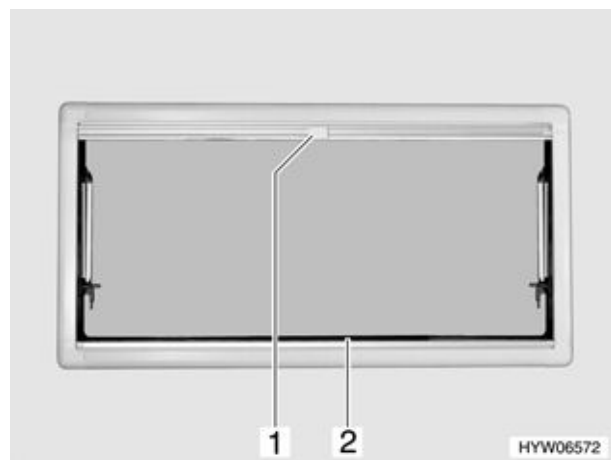

Fig. 47 Hinged window (variant 2)
- Grip the Roman shade (Fig. 47,2) using the holding bar, pull it upwards and then release it at the height you require. The Roman shade will stay at this height.
- Pull the insect screen (Fig. 47,1) downwards using the handle until it pushes against the Roman shade (Fig. 47,2).
- Press the handle attached to the insect screen (Fig. 47,1).